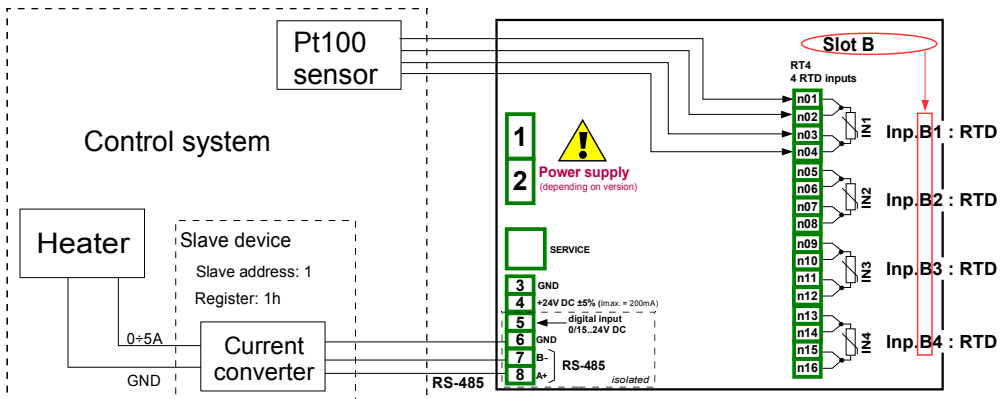

Fig. 7.72. Schematic diagram for the RT4 module and MB1 Modbus port
Before measuring and regulating the temperature, user should configure the device as follows and then connect the thermocouple sensor and Current converter to the device. An example of the connection is shown in **Fig. 7.72.**
- **Source** parameters set as **Inp.A1 : RTD** (see **Fig. 7.72**),
- **Precision** parameters set as **0.00** , because with this precision we can send signal from controller to Current converter (see **Fig. 7.72**),